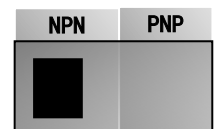

Figure 7-2 Toggle Switch J7
1. There is a toggle switch J7 near to control terminals. See Figure 7-2.